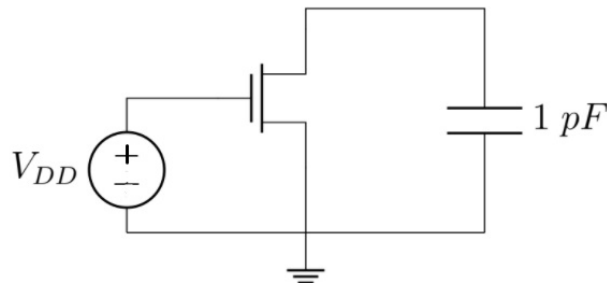

Figure 1
- (a) Perform a transient simulation of the circuit in Figure 1 using  $W/L = 240/180$  or  $W/L = 400/180$  and  $V_{DD} = 1.8 \text{ V}$ . Set the initial voltage across the capacitor to be  $1.8 \text{ V}$ . You should submit plots of  $R_{eq}$  as a function of  $V_{DS}$  for NMOS and PMOS devices (c. f. Figure 3.27 of course textbook). Note: For PMOS devices you need to modify the circuit.